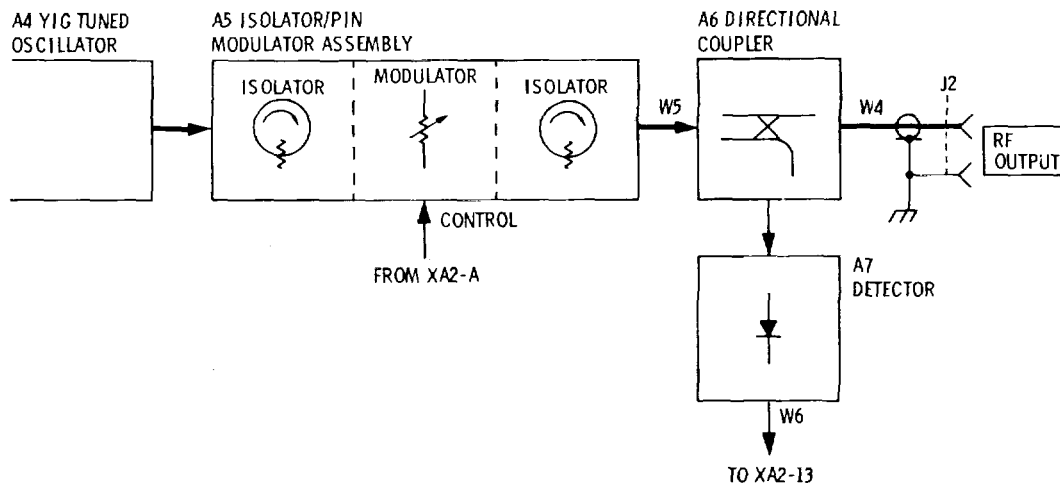

Figure 9-4. Partial Block Diagram (Option 001)
- Add the Partial Block Diagram (Option 001) in Figure 9-4.